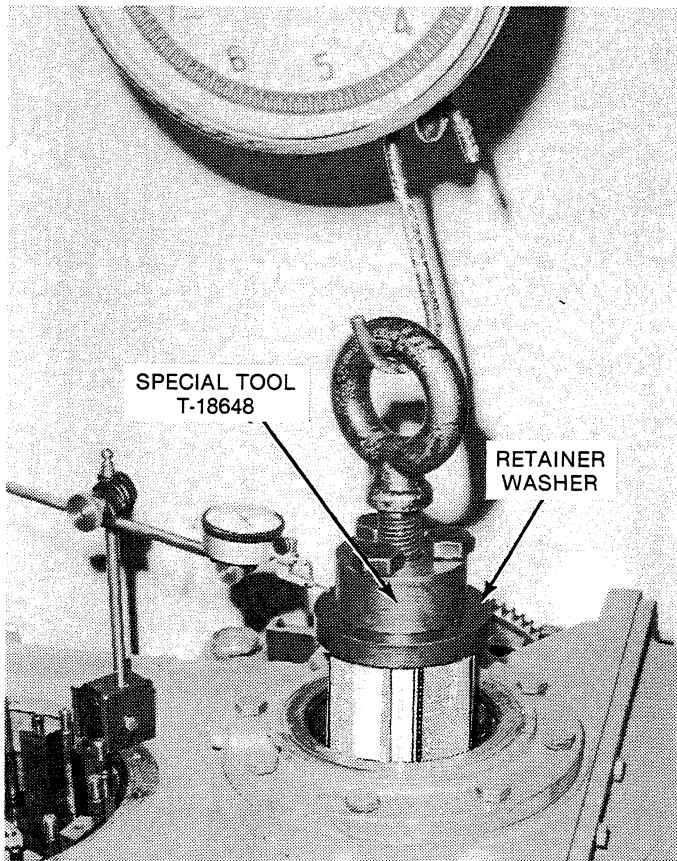

Figure 9-4. Checking Endplay of Output Shaft.
b. Install special tool T-18648 over the steel tubing and bolt the tool to the end of the output shaft (see Figure 9-4).
e. Install dial indicator onto the housing with the finger resting on the retainer washer on rear of output shaft (see Figure 9-4).
B h. Install an eyebolt into the special tool. Attach a sling to the eyebolts and use a hoist and fish scales to apply 1500 to 1700 lb. upward thrust on the shaft. See Figure 9-4.